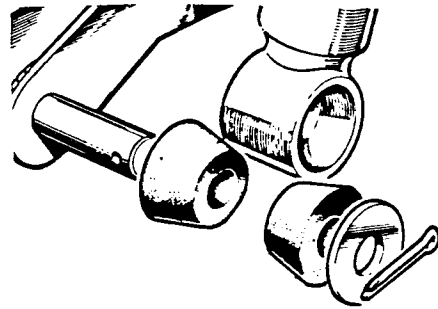

Fig J1.24
(4) Refer to Fig J1.24. Reconnect the lower ends of the shock absorbers to the road spring bottom plate.